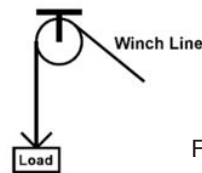

FIGURE 2
**2.1 WORKING LOAD LIMIT** - The DSK3-60 is designed and rated for a working load limit of 1 person weighing a maximum of 310lbs (including clothing, tools, and equipment) when used in a 1 Part Reeved System as shown in Figure 2.